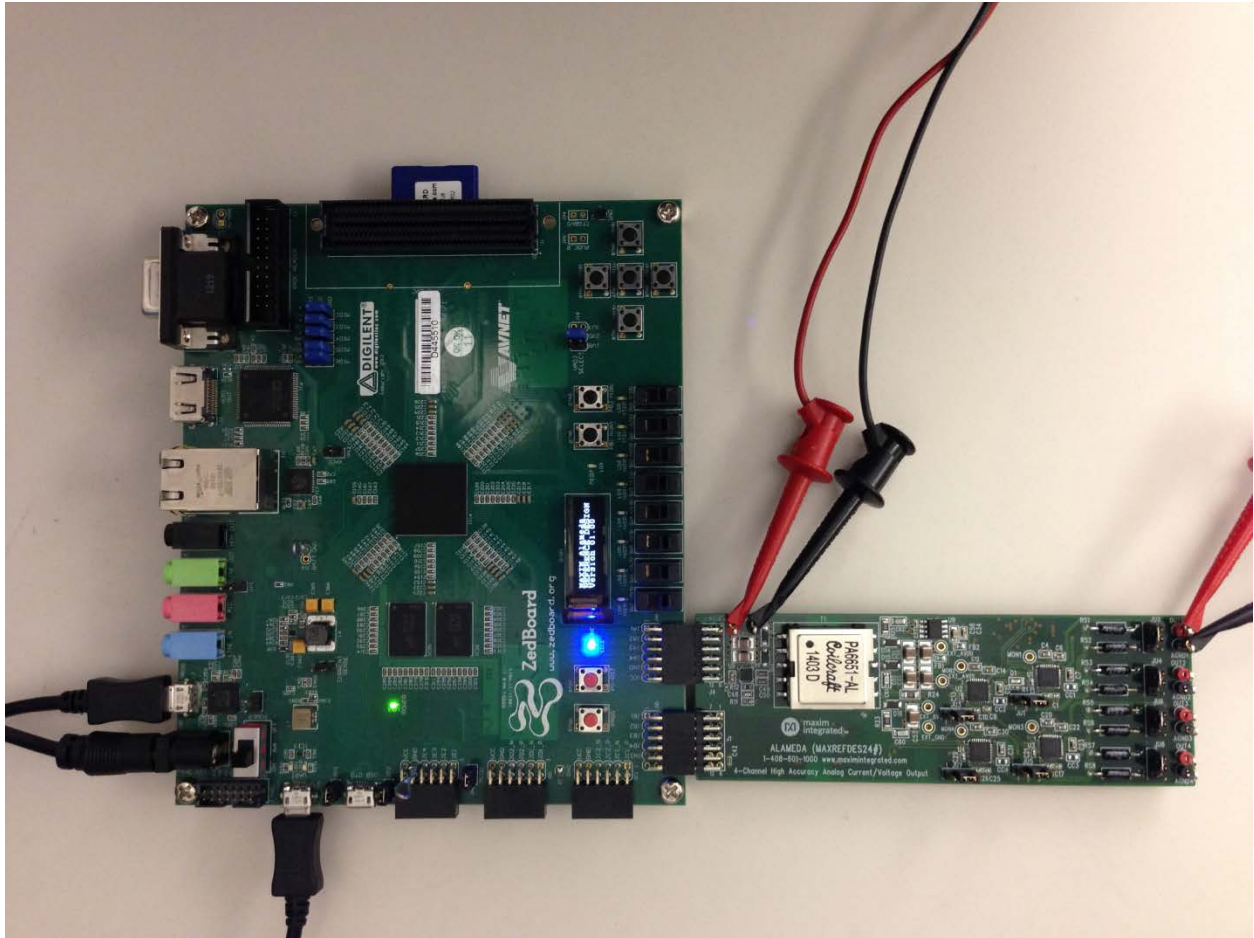
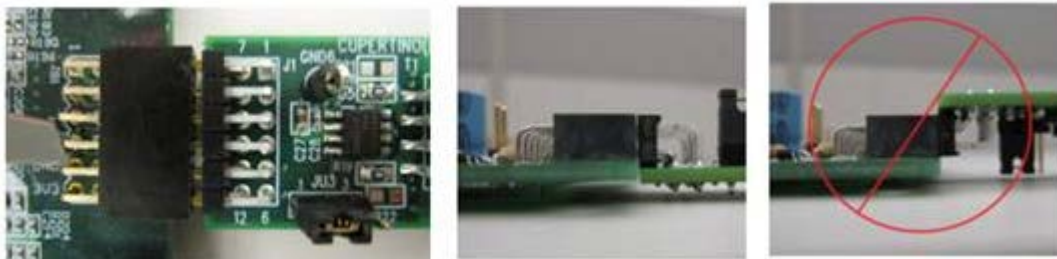

Figure 1. Alameda Board Connected to ZedBoard Kit
Figure 2. Pmod™ Connector Alignment
- 1) Connect the Alameda board to the JA1 and JB1 ports of a ZedBoard as shown in Figure 1. Ensure the connectors are aligned as shown in Figure 2. The communication between the Alameda board and the ZedBoard is through the pins on the JB1 connector. The JA1 connector is for the board physical support only.
1. Connect the Alameda board to the JA1 and JB1 ports of a ZedBoard as shown in Figure 1.